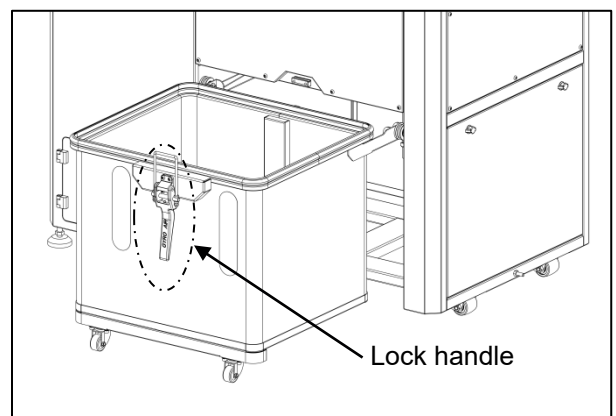

Fig. 15
The dust bin is located at the front of the machine, as shown in **Fig. 15**. Follow these steps to empty it:
6.1 Cleaning the Dust Bin (Fig.15)